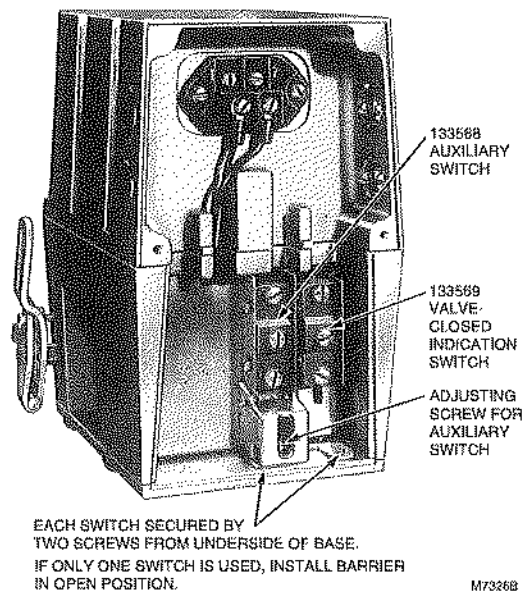

Fig. 2. V4055 Actuator with cover removed.
3. Insert the Auxiliary Switch in the position indicated in Fig. 2. Fasten with two screws through the actuator base.
4. Insert the Proof-of-Closure Switch in the position shown in Fig. 2. The switch mounts against the side of the actuator housing. The mounting holes are spaced to assure mounting the switch in the correct position. Fasten with two screws through the actuator base. (The Proof-of-Closure Switch is not adjustable.)
The Auxiliary Switch is adjustable throughout the stroke of the actuator. With the switch installed in the actuator, turn the adjusting screw (see Fig. 2) clockwise  to cause the switch to operate earlier in the stroke or counter-clockwise  to cause the switch to operate later in the stroke.